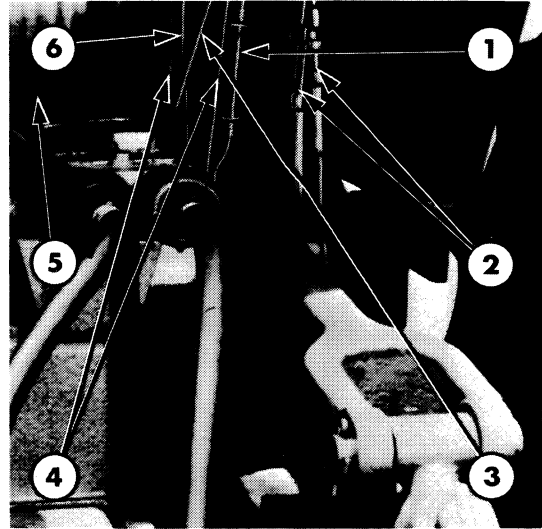

Figure 5
1. Remove the split pin and clevis pin to disconnect the P.T.O. cable at the left-hand side of the rear axle centre housing, Figure 5. Remove the cable attaching bracket and clip located on top of the hydraulic lift cover.